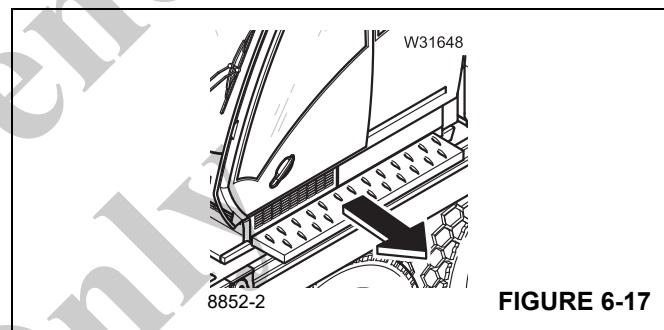

FIGURE 6-17
12. Extend the step (Figure 6-17) if necessary, refer to *Superstructure Cab Platform*, page 4-33.
10. Retract the step (Figure 6-17).